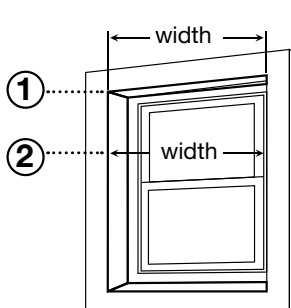

Figure 1
- 1 Measure the exact width of the window opening at the very top of the casing (figure 1).